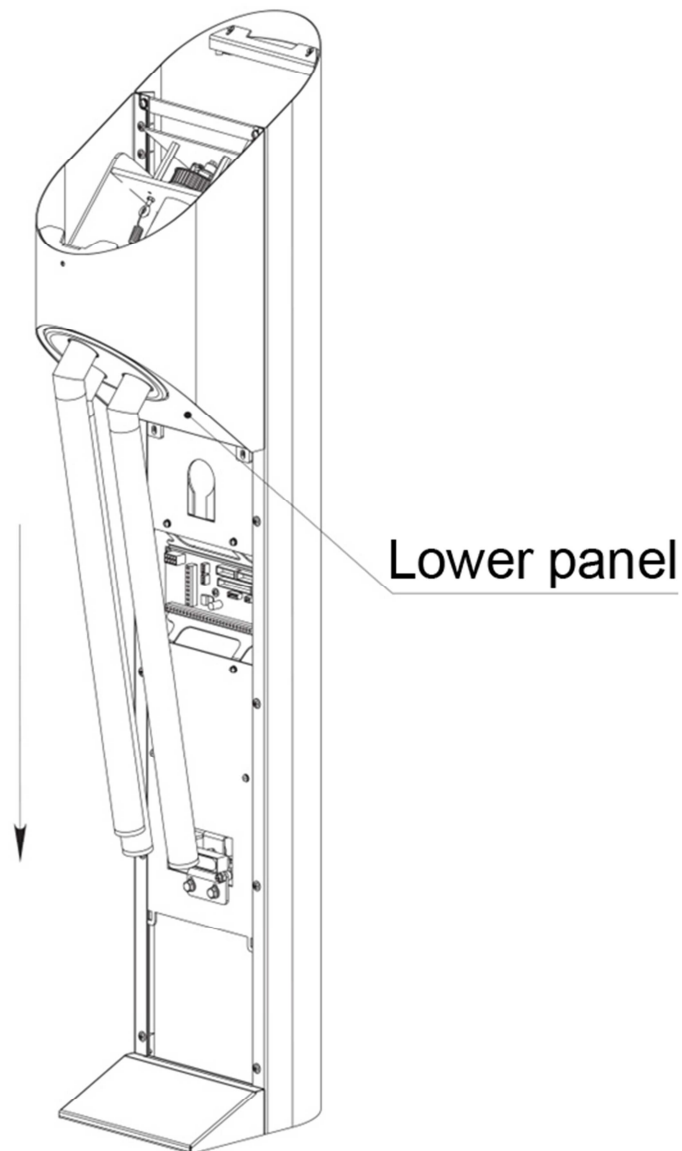

Fig. 10
- Remove the lower cover by moving it vertically down, as shown in Fig. 10